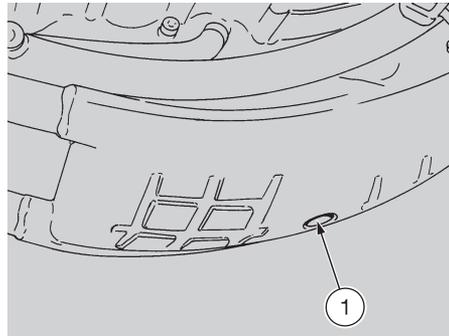

Fig. 28
- ◆ Remove the oil drain plug (1-Fig. 28), positioned on the bottom of the base (a special hole has been made on the exhaust silencer).
- ◆ Check the sealing washer of the drain plug (1-Fig. 28) and retighten it.